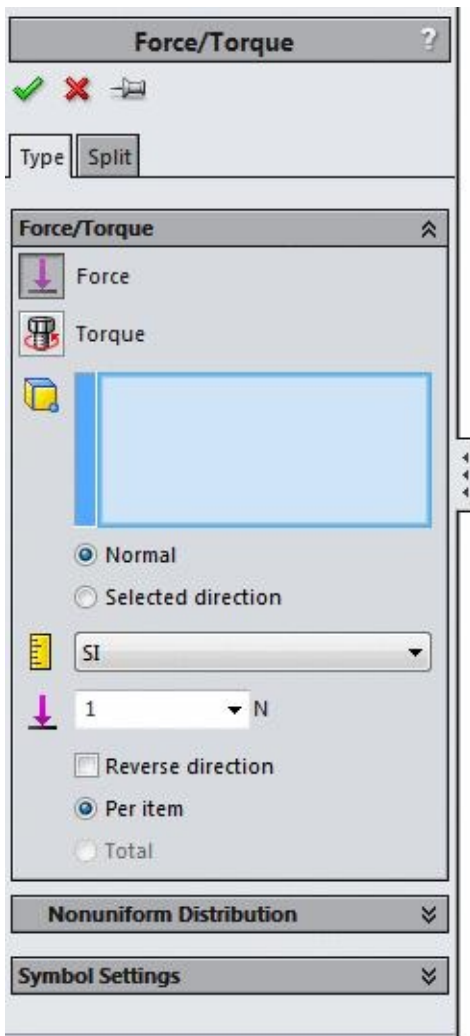

Figure-35. Force Torque PropertyManager
- Click on the **Add a load** link button from the advisor to apply the load. The options related to forces will displayed in the **Force/Torque PropertyManager**; refer to Figure-35. You can display the same **PropertyManager** by using the **Force** tool from the **External Loads Advisor** drop-down in the **Ribbon**. The method is discussed next.
- Click on the **Force** option from the **External Loads Advisor** drop-down in the **Ribbon**. The **Force/Torque PropertyManager** will display as shown in Figure-35.